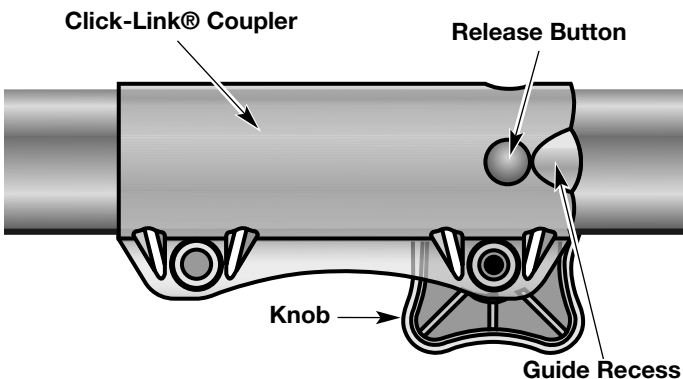

Fig. 24
1. Turn the knob counterclockwise to loosen (Fig. 24).
2. Press and hold the release button (Fig. 24).
1. Turn knob counterclockwise to loosen (Fig.24).
**NOTE:** Aligning the release button with the guide recess will help installation (Fig. 24).